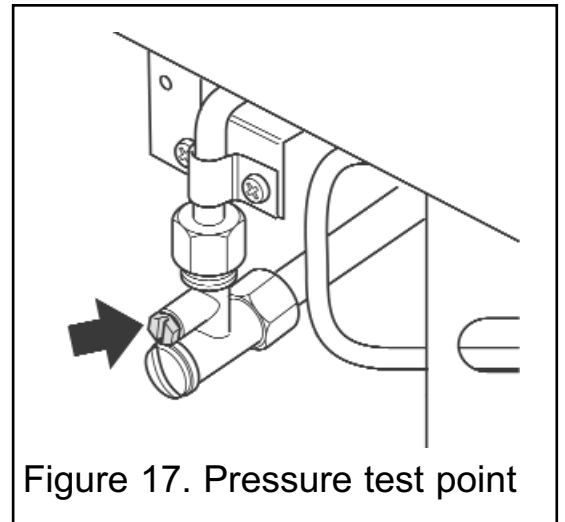

Figure 17. Pressure test point
1. Check the inlet pressure by fitting a pressure gauge at the test point. The test point is on the inlet 'T' connector (See figure 17). Check the pressure with the appliance alight and set at maximum output.